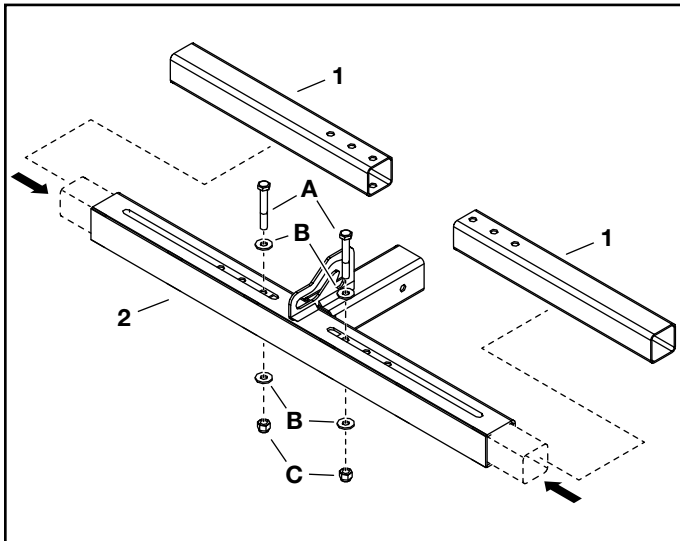

FIGURE 1
STEP 1: (SEE FIGURE 1)
- Insert a slider tube (1) into each end of the hitch mount assembly (2)
- Attach the slider tube to the hitch mount assembly using two hex bolts (A), washers (B), and Nyloc hex nuts (C). Do not tighten.